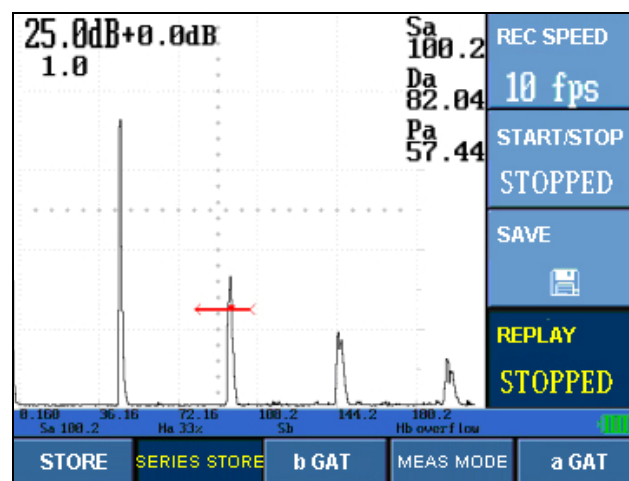

Figure 6-15 Series Store
- (1) Enter "SERIES STORE" main menu. Refer to Figure 6-15.
- (2) Record speed: record picture frames per second, continuously adjustable;
- (3) START/STOP: press this key to start or stop record. The record is stored in flash memory, and will disappear after turning off or cut down electricity, so transfer it to U disk timely.
- (4) SAVE: press this key to transfer recorded document in U disk or other storage.
- (5) REPLAY: play recorded document.